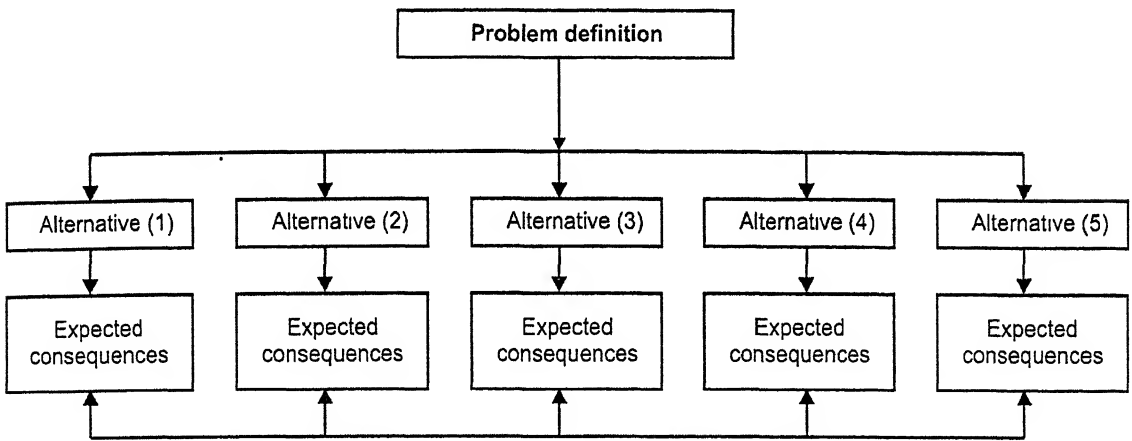

Fig. 2.2. Decision making process.
**Ans.** Fig. 2.2. Illustrates the decision making process.